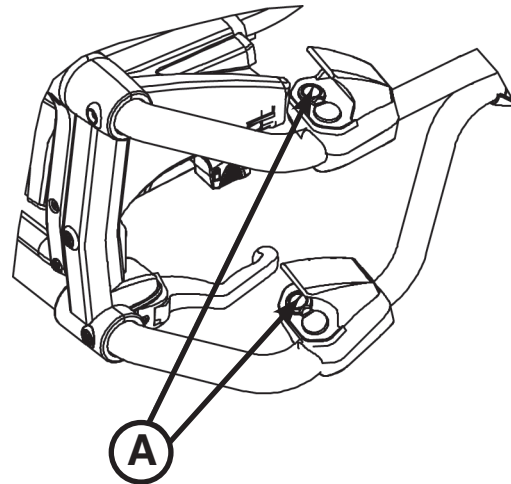
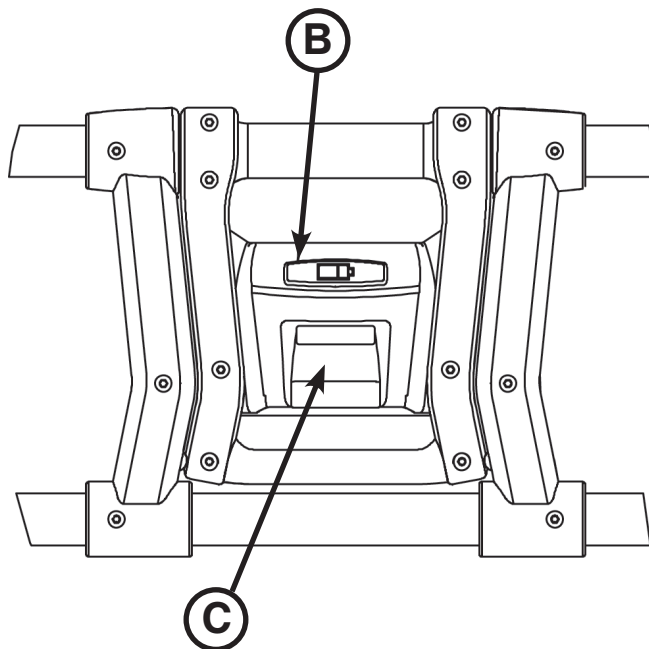

Figure 18: Retract Button - Control Switch
Figure 19: Foot End Control Enclosure
To check the battery power level, press the retract (-) button (A) as shown in Figure 18 on the cot control switch to activate the cot battery LED indicator (B) as shown in “Figure 19: Foot End Control Enclosure” on page 32.
The hour meter (C), located on the foot end control enclosure, indicates the amount of time (HHH.H hours) that the hydraulics have been activated as shown in Figure 19. You can use the hour meter to determine the frequency for preventative maintenance procedures as listed on page 65.